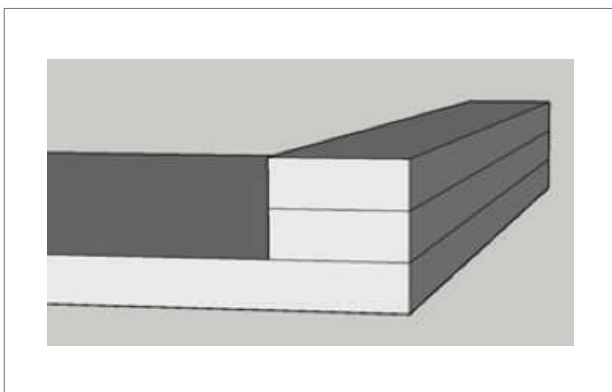

Fig.2
- One of the easiest ways to produce a drop edge is to simply stack layers of HIMACS on the underside of the sheet (Fig. 2); reasonable for SOLID and SAND color family.